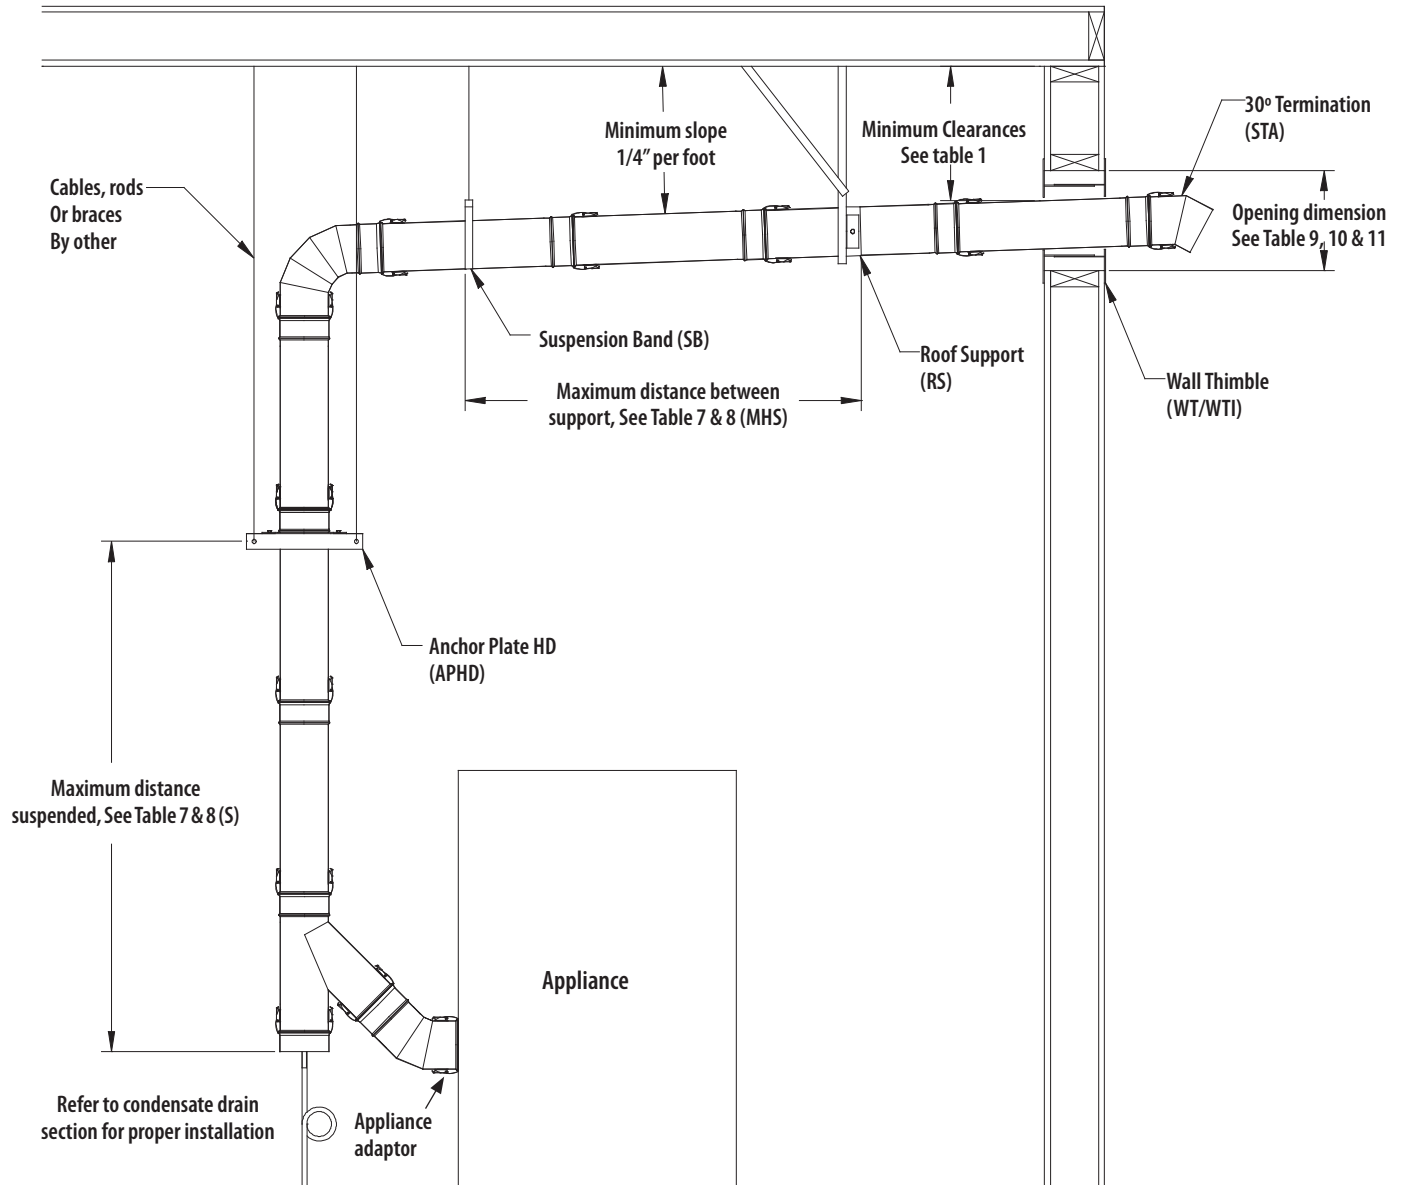

Figure 5- Horizontal
- Remember, if you raise the appliance or lower the ceiling you must adjust the slope of the vent to maintain the 1/4" per foot minimum. See **Figure 5 & 26**.